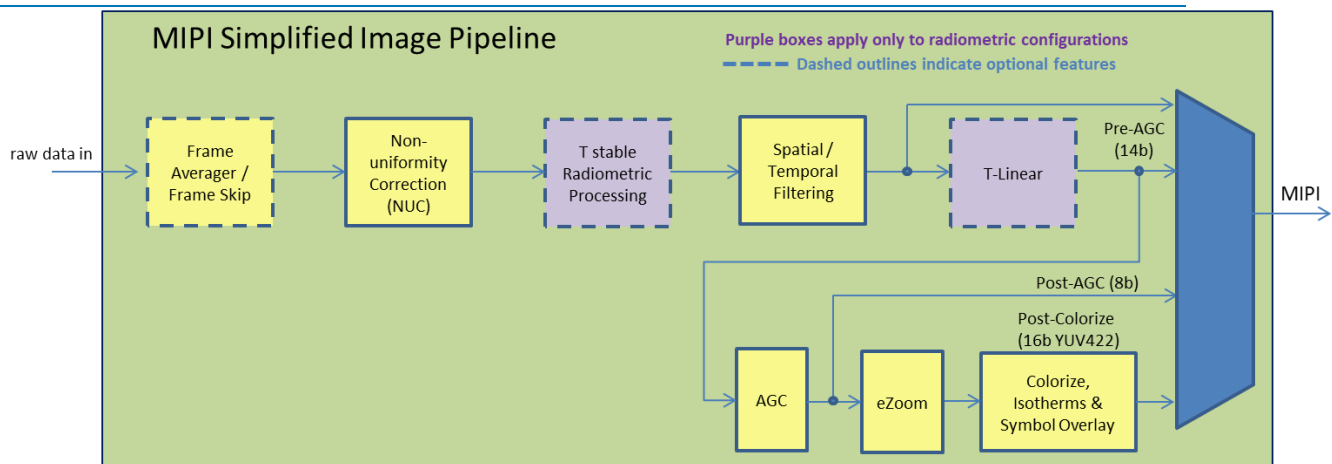

FIGURE 55: BOSON+ SIGNAL PIPELINE – MIPI OUTPUT ENABLED
As described in Section 5 and shown again in Figure 55, there are multiple locations in the signal pipeline where video can be tapped for output on the MIPI channel. MIPI specific details can be found in the Boson MIPI application note 102-2013-106. Boson+ provides the following MIPI video-tap modes:
- **Radiometry Enabled Pre-AGC (14-bit) (factory default with Radiometry enabled)**: On Radiometry enabled cameras, the T-stable or T-linear tap point is available. See Figure 55, as well as Section 7.7.